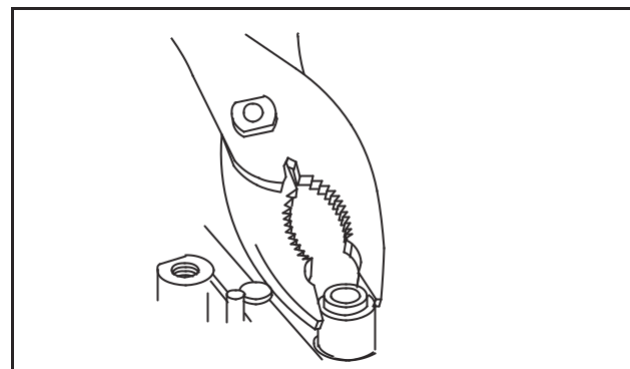

Fig. 11 – Remove Valve Stem Seal
2. Remove and discard valve stem seals, Fig. 11.